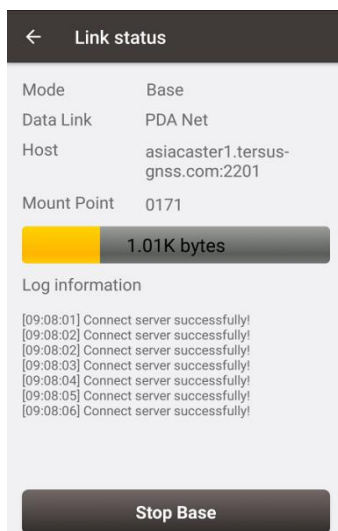

Figure 6.10 Base is transmitting corrections
16. When all the configurations above are correct, the base is transmitting RTK corrections as shown in Figure 6.10.